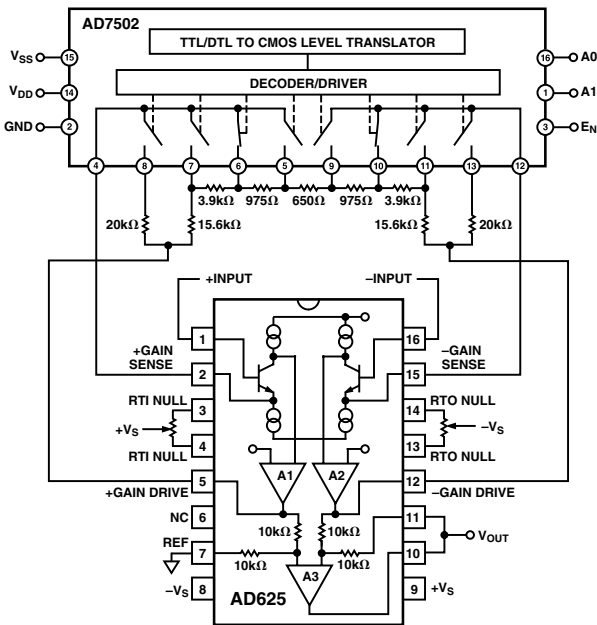

Figure 38. SPGA in a Gain of 16
Figure 38 shows an AD625 based SPGA with possible gains of 1, 4, 16, 64. R_G equals the resistance between the gain sense lines (Pins 2 and 15) of the AD625. In Figure 38, R_G equals the sum of the two 975 Ω resistors and the 650 Ω resistor, or 2600 Ω. R_F equals the resistance between the gain sense and the gain drive pins (Pins 12 and 15, or Pins 2 and 5), that is R_F equals the 15.6 kΩ resistor plus the 3.9 kΩ resistor, or 19.5 kΩ. The gain, therefore equals:
can be used to calculate the necessary feedback resistors for any set of gains. This formula yields a network with a total resistance of 40 kΩ. A dummy variable (j) serves as a counter to keep a running total of the preceding feedback resistors. To illustrate how the formula can be applied, an example similar to the calculation used for the resistor network in Figure 38 is examined below.
- 2) Before making any calculations it is advised to draw a resistor network similar to the network in Figure 41. The network will have $(2 \times M) + 1$ resistors, where M = number of gains. For Figure 38 $M = 3$ (4, 16, 64), therefore, the resistor string will have seven resistors (plus the two 20 kΩ “side” resistors for unity gain).
- 5) If different resistor values are desired, all the resistors in the network can be scaled by some convenient factor. However, raising the impedance will increase the RTO errors, lowering the total network resistance below 20 kΩ can result in amplifier instability. More information on this phenomenon is given in the RPGA section of the data sheet. The scale factor will not affect the unity gain feedback resistors. The resistor network in Figure 38 has a scaling factor of $650/625 = 1.04$, if this factor is used on R_{F_1} , R_{F_2} , R_{F_3} , and R_G , then the resistor values will match exactly.